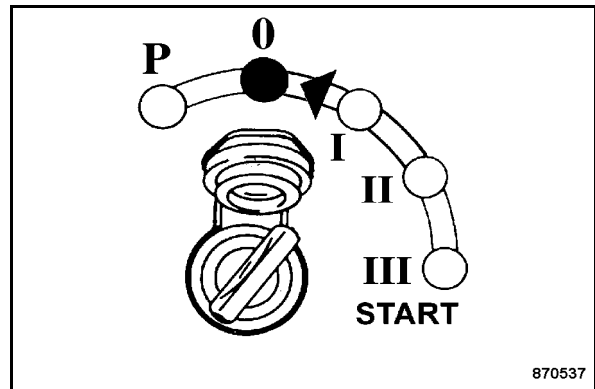

Fig. 63
- Turn the starter switch (Fig. 63) to position "0" or "P" and pull the ignition key out.